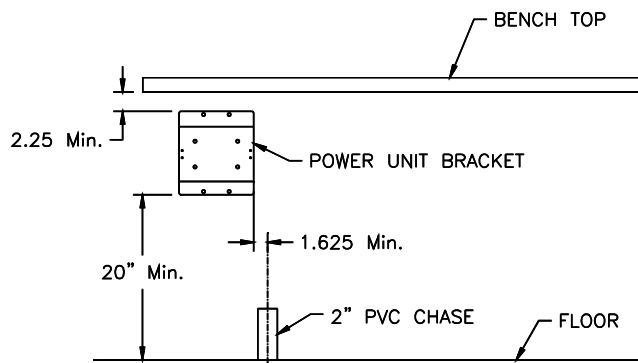

Fig 2 – Power Unit Bracket Location
- 1) Mount the Power Unit Bracket on the wall under the workbench using **Fig 2** as a guide for the minimum clearance dimensions. Use anchors (not Included) suited for the wall material.